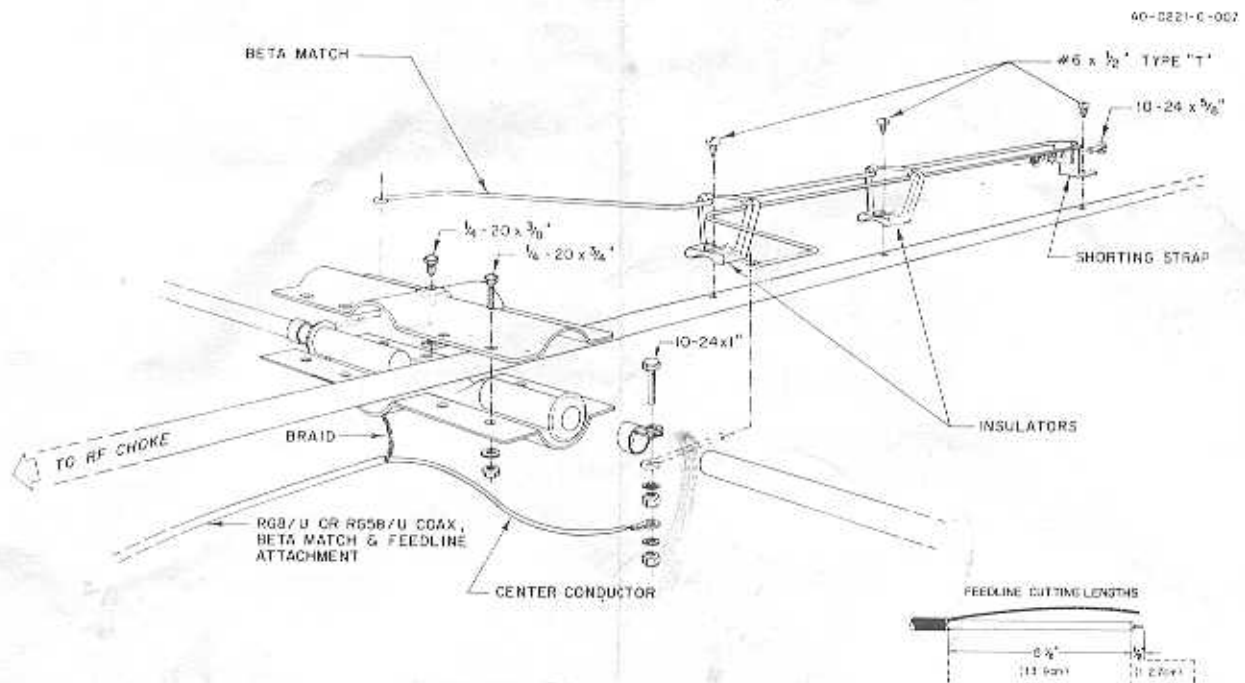
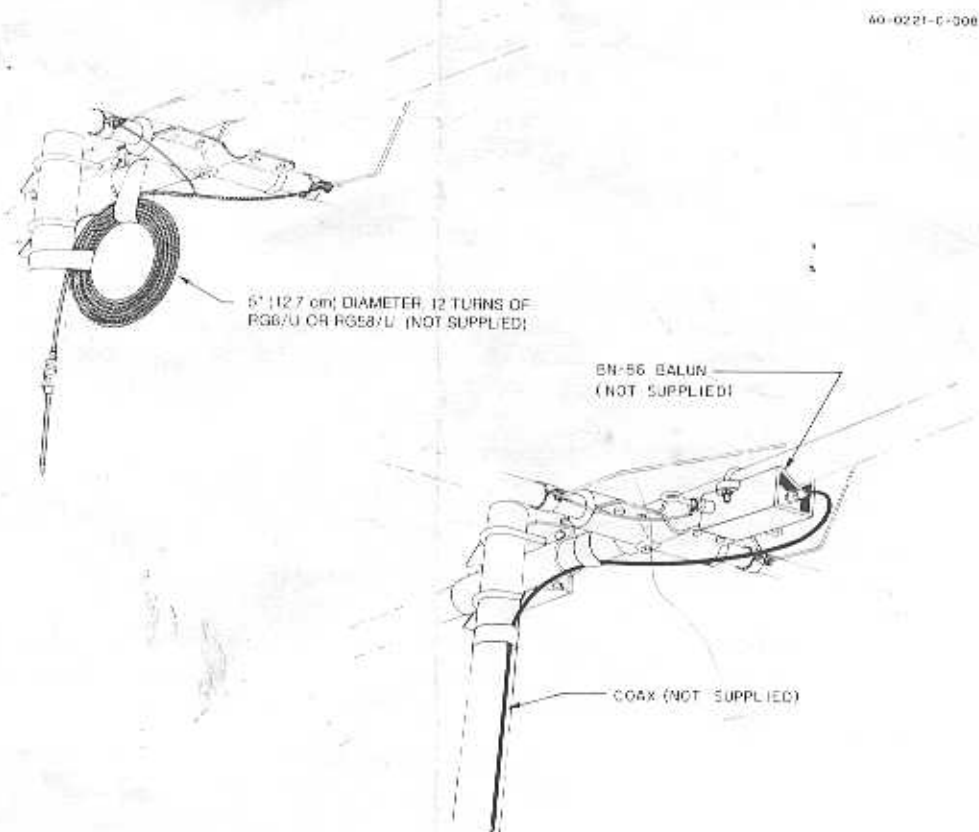

Figure 7. Beta Match/Feedline Attachment
Figure 8. RF Choke
- () Select the beta match support insulators. Install as shown in Figure 7.
() Select the beta shorting strap and install as shown in Figure 7.
() Form an rf choke by winding twelve turns of coax in a coil approximately 5" in diameter. Tape securely to the TH3JR boom near the boom-to-mast bracket. Trim the end of the coax as shown in Figure 7. Attach the center conductor and the braid to the beta clamp as shown in Figure 8.